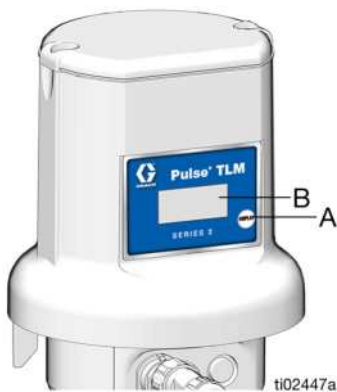

FIG. 9
Press and release the display button (A). Data appears on the display (B) (FIG. 9); each screen lasting a few seconds before going on to the next.
After a tank is refilled from an oil distributor, or a waste oil tank is emptied by a waste oil service provider, press the display button (A) (FIG. 9) on the TLM. This ensures the TLM will maintain the most current tank volume status.